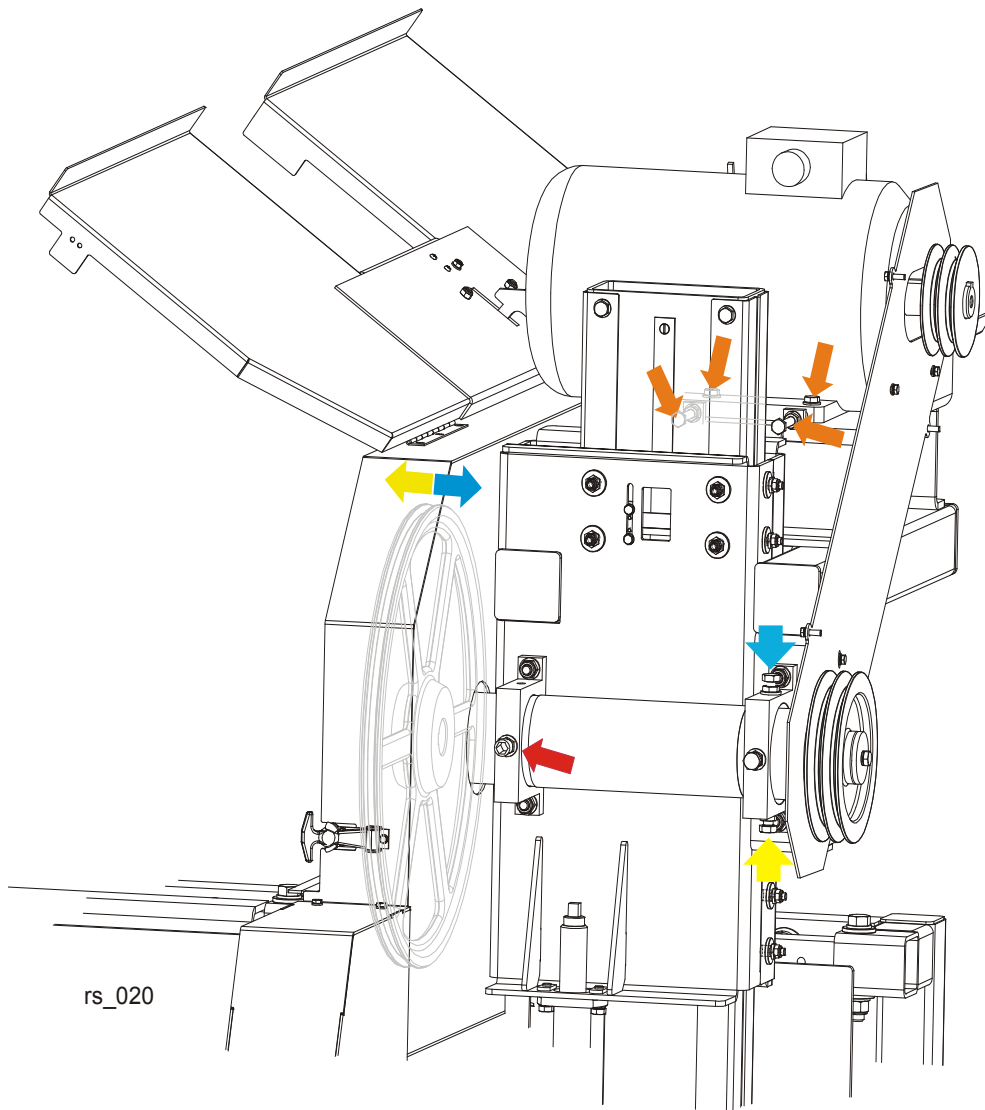

FIG. 4-4
**See Figure 4-4.** Use the vertical adjustment screws (marked with the blue and yellow arrows in the figure below) to adjust the drive-side blade wheel. Before adjusting the wheel, loosen the drive belt using the adjustment bolts marked with the orange arrows in the figure. Loosen the jam nut and the hex socket head screw marked with the red arrow in the figure and adjust the wheel with the vertical adjustment screws. To tilt the wheel down, loosen the top adjustment screw one quarter turn. Loosen the jam nut on the bottom adjustment screw and tighten the screw. Tighten the top and bottom jam nuts. To tilt the wheel up, loosen the bottom adjustment screw one quarter turn. Loosen the jam nut on the top adjustment screw and tighten the screw. Tighten the top and bottom jam nuts. Tension the drive belt properly (See Section 3.8).